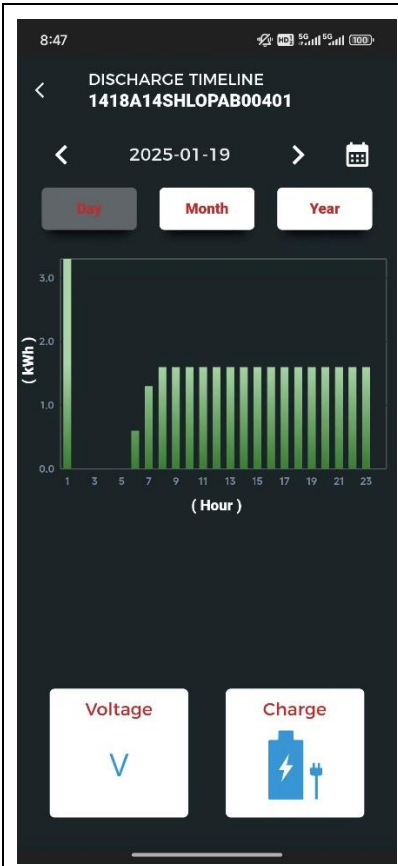
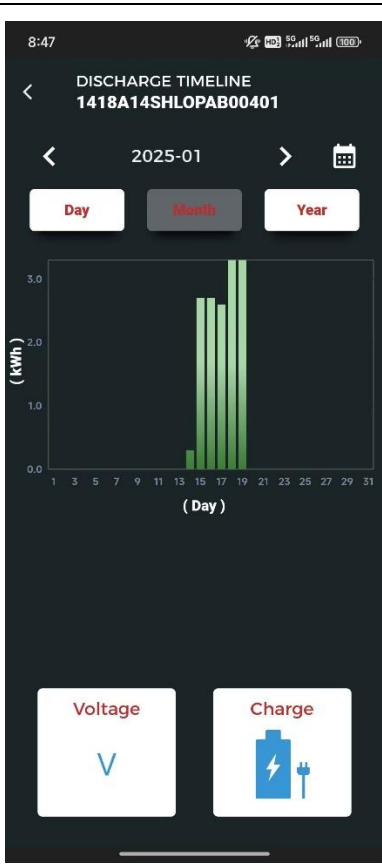
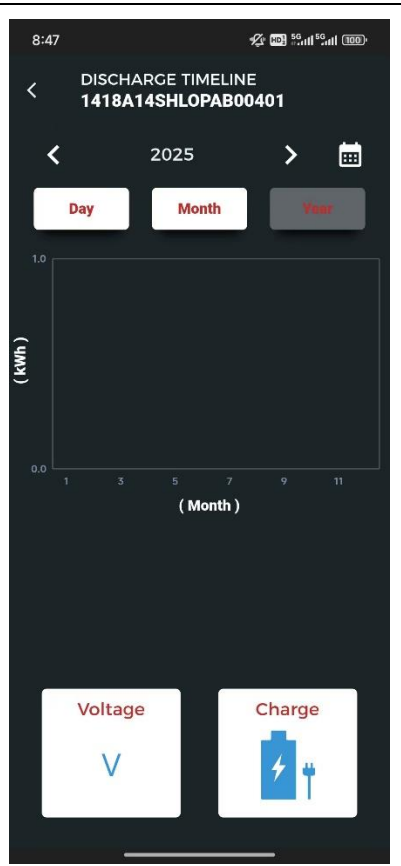

Figure 32: Discharge day histogram
Figure 33: Discharge month histogram
Figure 34: Discharge year histogram
(3) Discharge histogram. Click "Discharge" in, the discharge day histogram page as shown in Fig.32 will be opened. There are two other discharge charts: Fig.33 Monthly discharge histogram and Fig.34 Discharge year histogram: